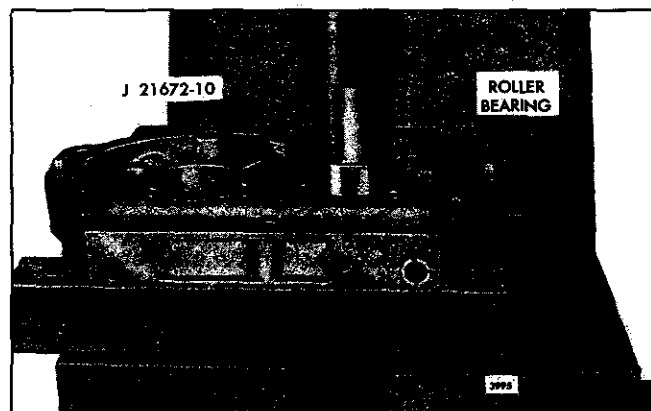

Fig. 13 – Installing Roller Bearing in Rear End Plate
- a. Support the rear end plate (inner face down) on two wood blocks on the bed of an arbor press as shown in Fig. 13.